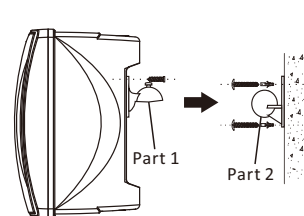

Fig. 1
- ① Unscrew the multi-angle adjustable bracket screw first, and separate the part 1 and part 2. Fix the speaker and part 1; choose an appropriate position to fix the part 2 on the wall. (Fig. 1)
- ② Connect the speaker to the audio cable (see Wiring Diagram). Different voltages corresponds to different powers (see Audio Terminal Table).